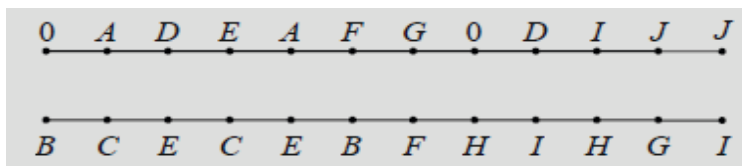

Fig: 5(a)
- 5 a. **Given:** Channel routing instance as shown in Fig. 5(a). Perform the left-edge algorithm to route nets A-J in the channel.